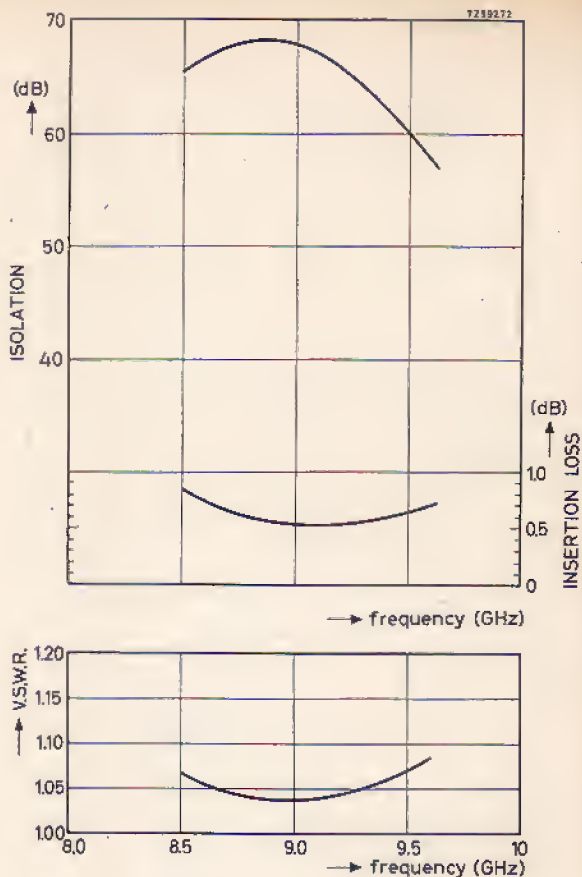

Fig. 2
**ELECTRICAL DATA (see also Fig. 2)**